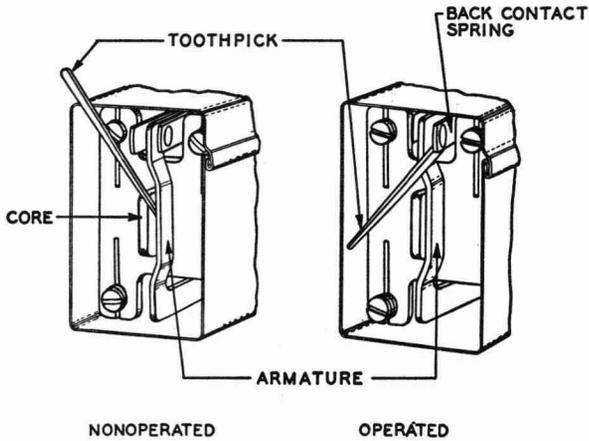

Fig. 2—Blocking B-, G-, and J-type Relays
3.02 **B-, G-, and J-type Relays:** Fig. 2—Block relays nonoperated by inserting a toothpick between the core and the armature. Block relays operated by inserting the flat end of a toothpick between the back contact spring or backstop and the upper part of the armature. Take care not to insert the toothpick between the contacts.